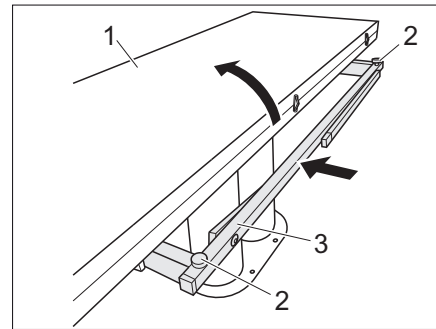

Fig. 108 Reducing the table
- Fold in the table half (Fig. 108,1).
- Screw the two adjusting screws (Fig. 108,2) in.
- Push in the table base (Fig. 108,3).